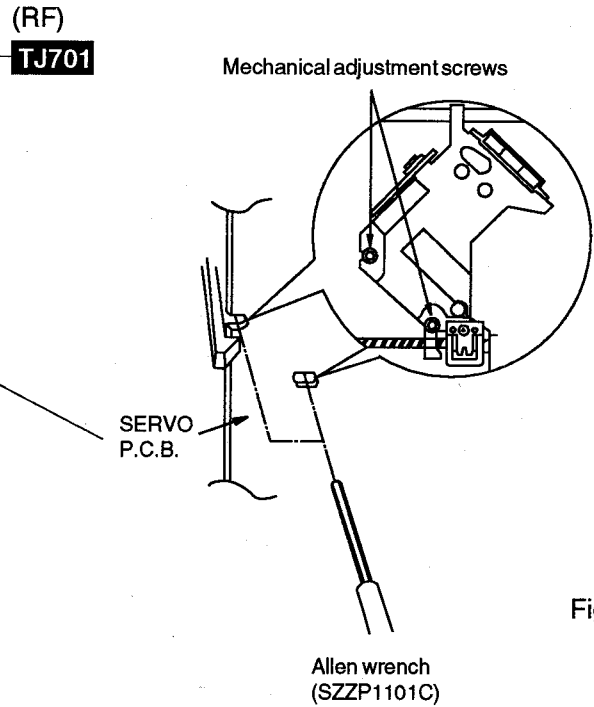

Fig.2
4. Alternately adjust the HEX screws with the 2.0mm allen wrench (SZZP1101C) until the vertical fluctuation of RF signal is minimized and the eye pattern is most stretched. (Refer to Fig. 2 on page 17)